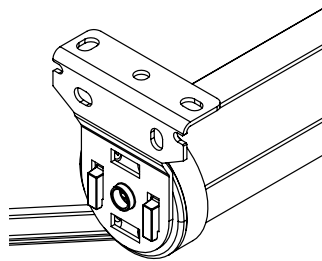

**Figure 10.** Insert the Heavy Duty End Pin and Motor Assembly.
**Step 7.** Insert the heavy duty end pin (and tube adapter where required) and the motor assembly into the roller tube. Make sure to line up the tabs on the tube with channels on the driver and crown as shown in **Figure 10**.